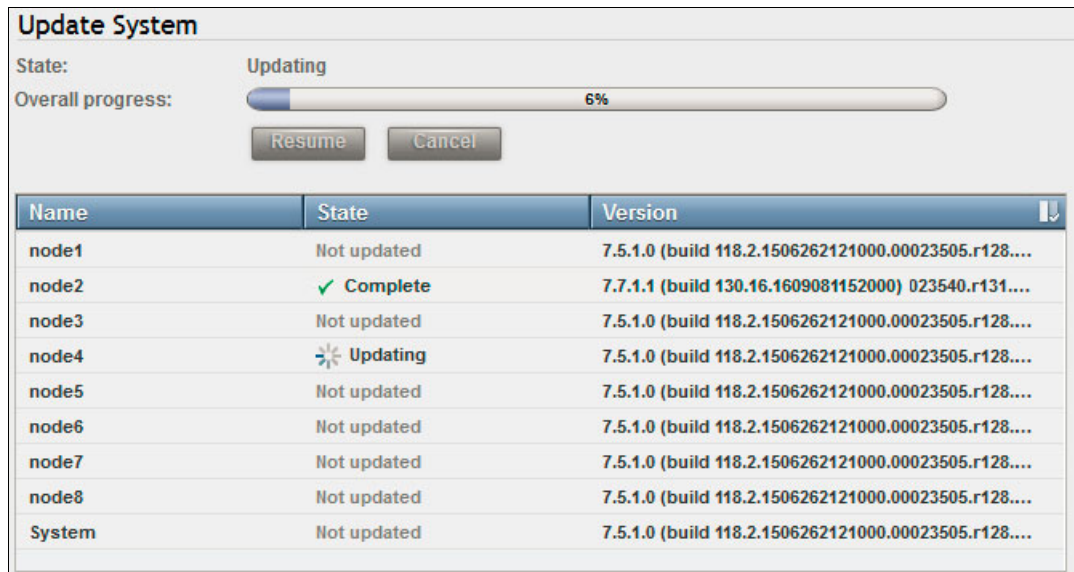

Figure 5-82 Second node updating (node 4)
- Figure 5-82 shows the progress on the second node that is updating, which is node4 in this example.